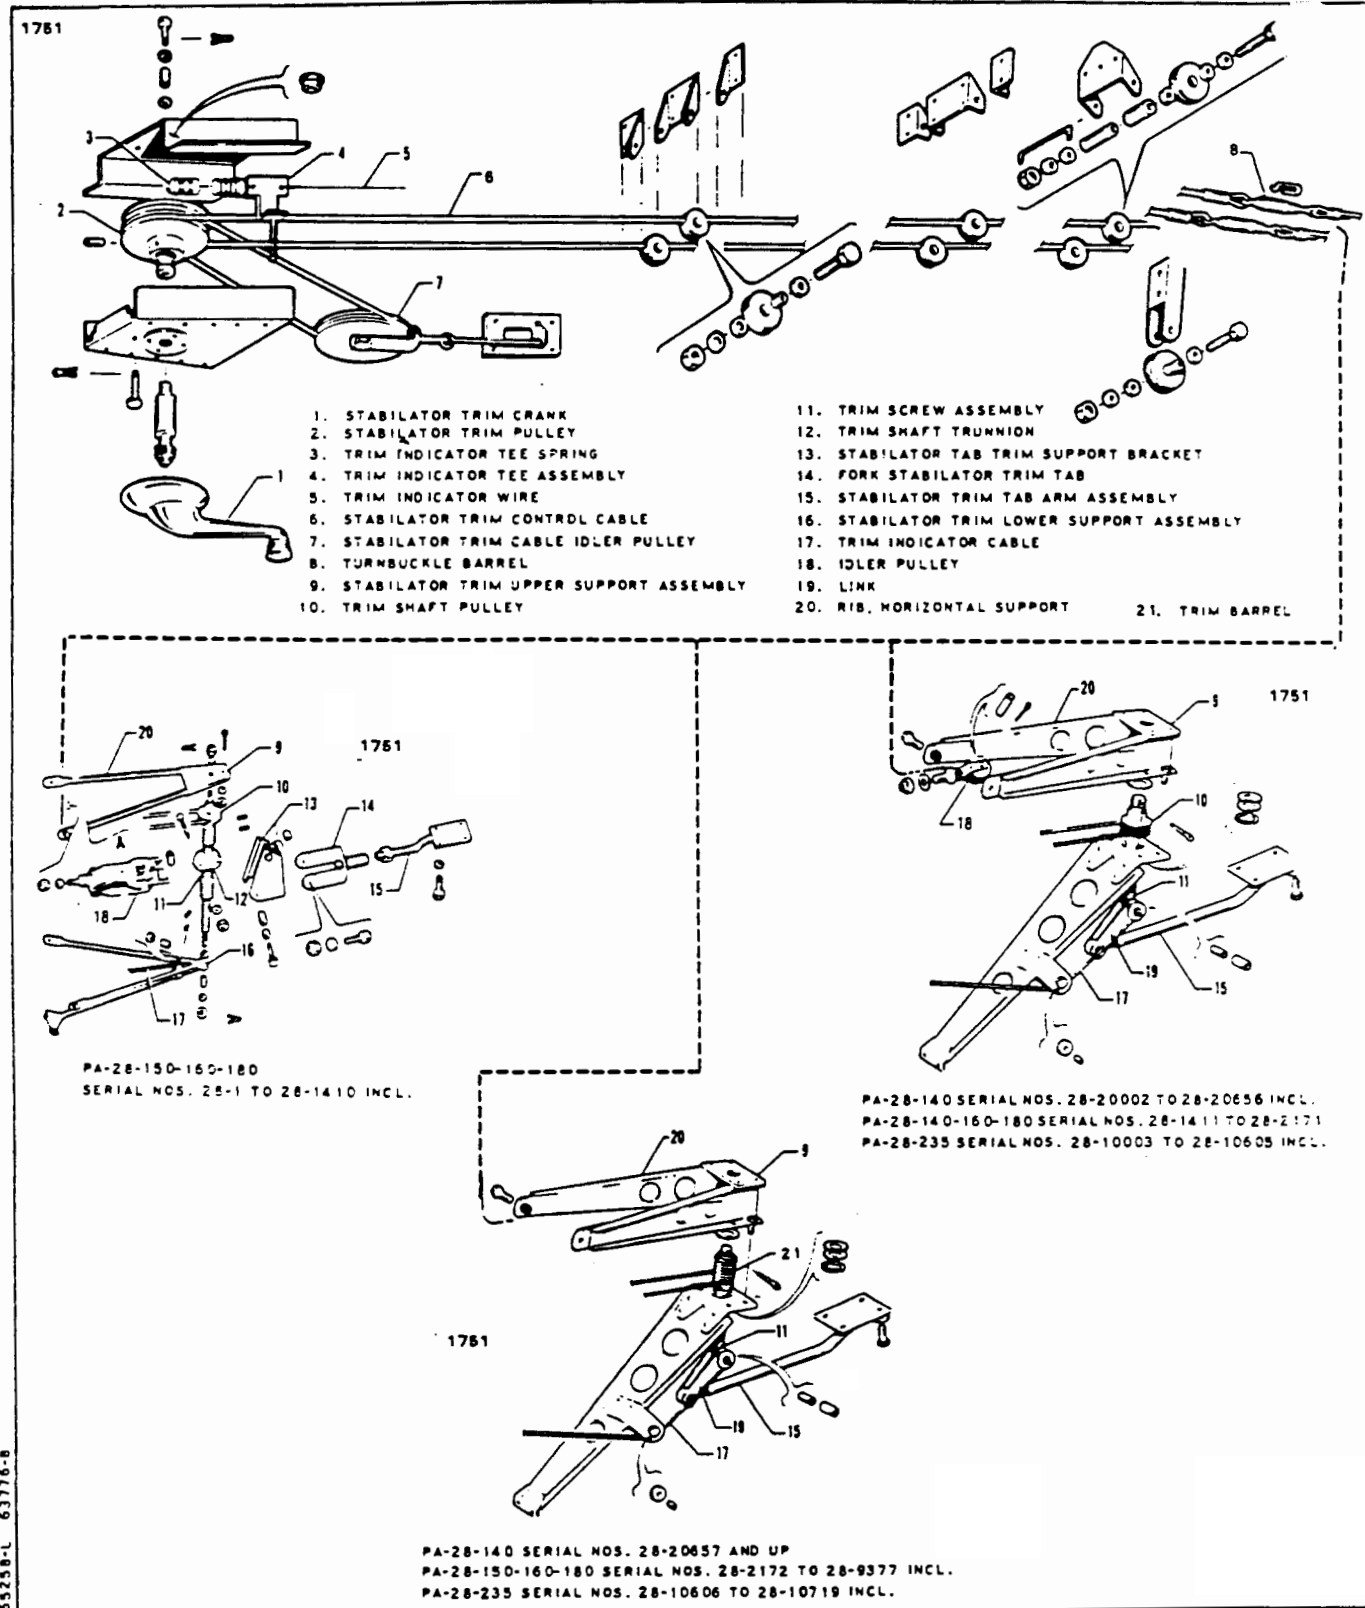

Figure 5-9. Stabilator Trim Control (Overhead Control)
(Refer to Figure 5-9.)
- (b) With the forward portion installed, route the long length (the long length should be the left end of the cable) aft, counterclockwise around to the top groove of the trim pulley (10), around the idler pulley (18), back around the bottom groove of the trim pulley and forward to the inside of the fuselage.
3. The trim indicator cable may be installed by attaching one end to the trim screw trunnion. (Refer to Figure 5-9 for correct location.) Loop the cable around the pulley below the trim screw. Install the cotter pin cable guard at the pulley. Attach other end of the cable to the indicator wire, and at the same time make adjustments given in paragraph 5-23.
2. Attach the horizontal (20) and diagonal support ribs to the aft bulkhead of the fuselage with bolts, washers and nuts. Start nuts only a few threads so as to allow ribs to hang loose. Do not connect the ribs at this time.
4. Wrap the trim cable around the barrel (21) and idler pulley (18). To do this, hold the barrel next to the aft end of the support braces and wrap, bringing the end of the long length (The long length should be the left end of the cable.) aft to the left side of the trim barrel, around the bottom groove of the idler pulley, then continuing to wrap in this direction until all grooves are filled.
5. Install the trim barrel (21) in the bushing between the horizontal and diagonal ribs, and then attach the ribs, securing with bolts, washers and nuts. Tighten bolts where the ribs attach to the aft bulkhead.
11. The trim indicator cable may be installed by attaching one end to the lower end of the trim screw (Refer to Figure 5-9 for correct location.) and looping the cable around the pulley below the trim screw. Install the cotter pin cable guard at the pulley. Attach other end of the cable to the indicator wire, and at the same time make adjustments given in paragraph 5-23.